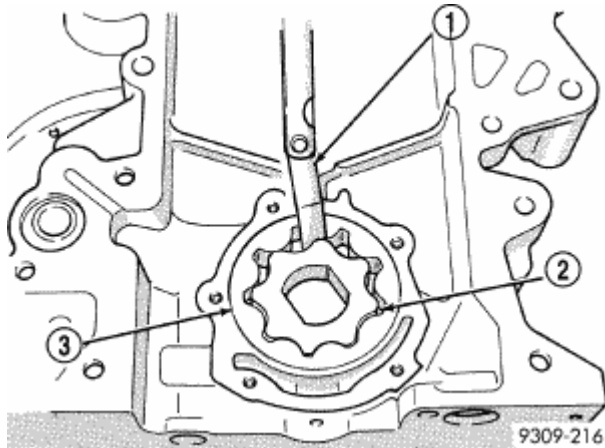

Fig. 191: Identifying Feeler Gauge, Inner & Outer Rotor
6. Install inner rotor into chain case cover. If clearance between inner and outer rotors is 0.203 mm (0.008 in.) or more, replace both rotors. See **Fig. 191**.